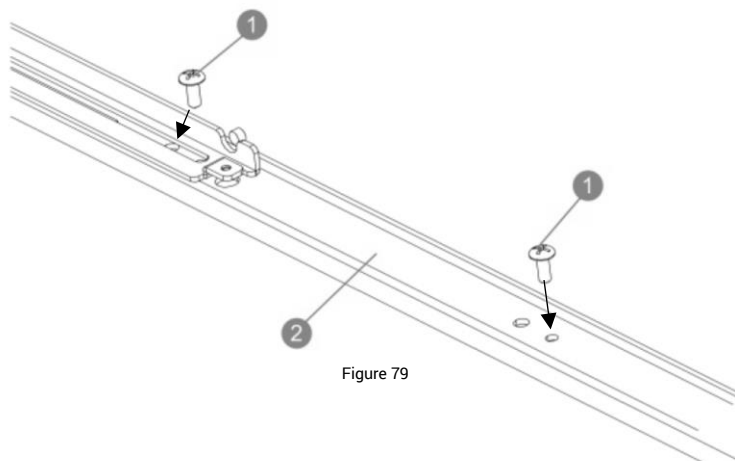

Figure 79
2. Secure the flat frame support to the embroidery frame connecting plate with the two (2) M4x8 screws provided. See Figure 79.